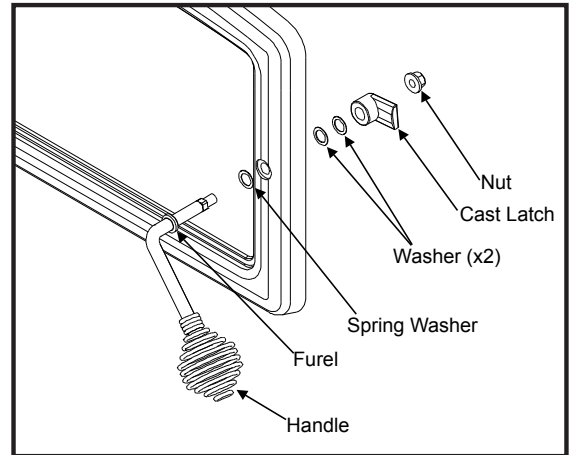

Figure 47: Installation Door Handle Hardware.
1. Install door handle as shown in Figure 47.